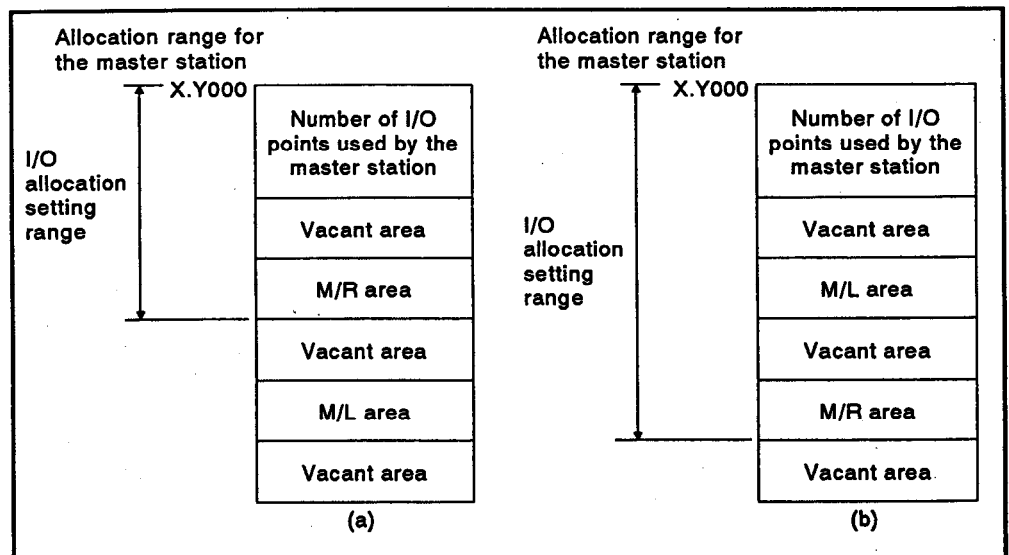

Fig. 7.48 I/O Allocation Setting Range
- (a) If the M/L area is allocated after the M/R area, it is not necessary to allocate inputs and outputs to the local station setting range (see Fig. 7.48(a)).
- (b) If the M/L area is allocated after the M/R area, it is necessary to allocate inputs and outputs to the local station setting range (see Fig. 7.48(b)).
When allocating inputs and outputs, the device range is set with the assumption that the input modules or output modules are loaded or that vacant slots exist corresponding to the ranges marked by asterisks in both items of Fig. 7.48 and in the "M/L area" in Item b of Fig. 7.48.